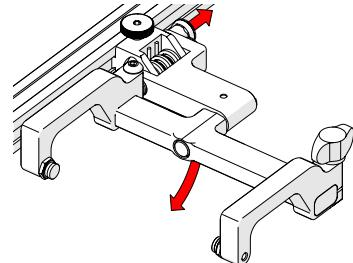

Fig. 117 - Lift and pull latch
3. Lift the probe holder slightly and pull the latch to release the probe holder's spring tension (Fig. 117).